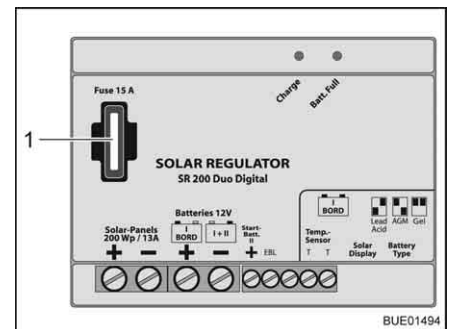

Fig. 150 Fuse of the 140/200 W solar charge regulator
- Replace flat fuse 15 A/blue (Fig. 150,1).